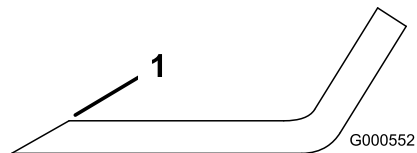

Figure 49
1. Use a file to sharpen the cutting edge at both ends of the blade (Figure 49).
Note: If the blade is not balanced, file some metal off the end of the sail area only (Figure 49).